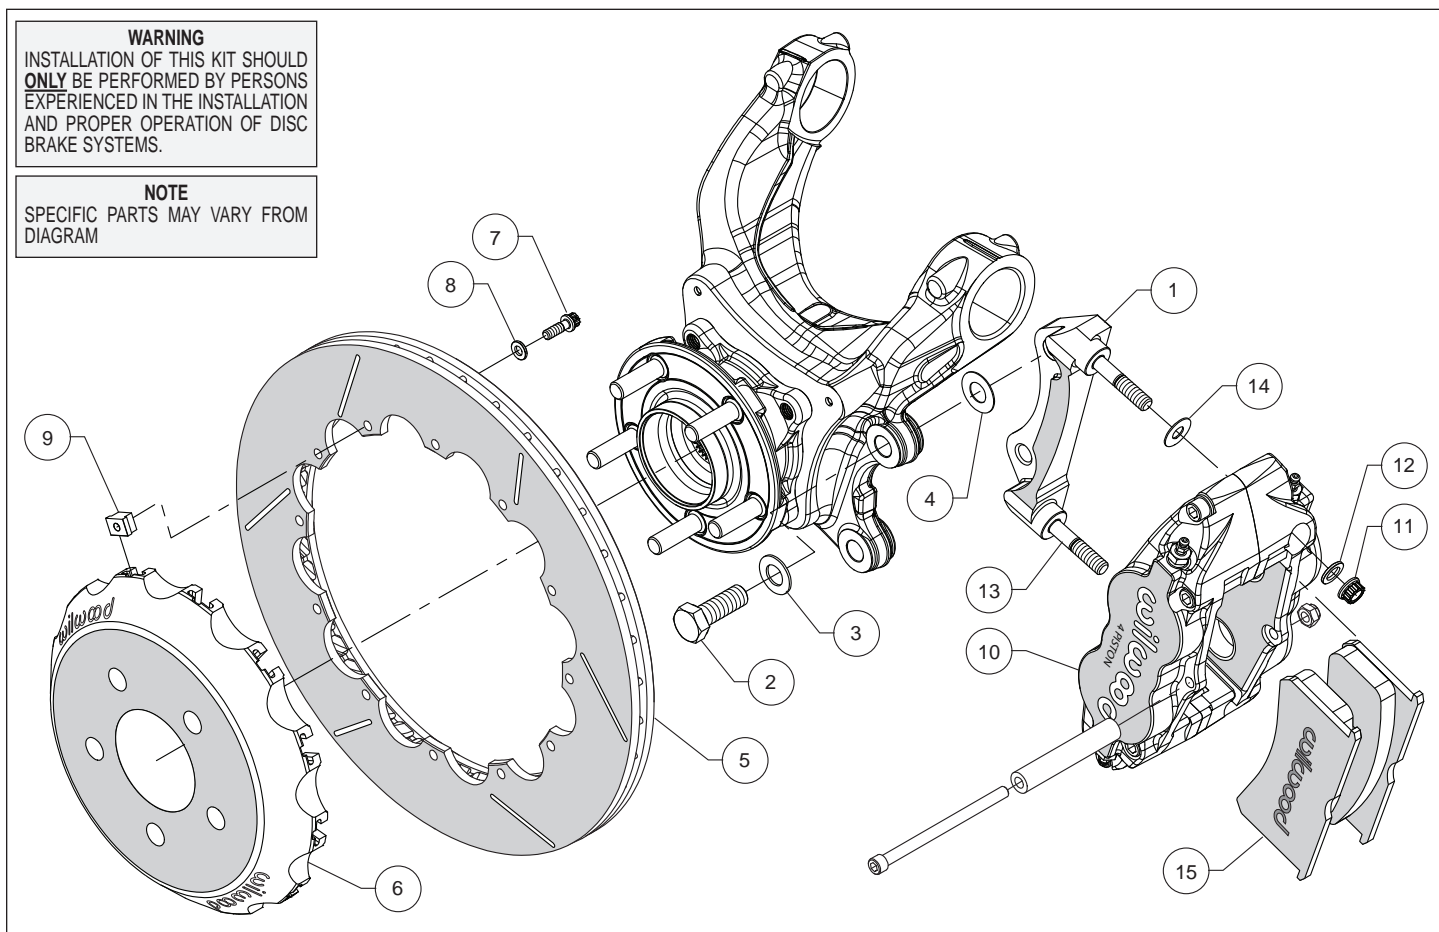
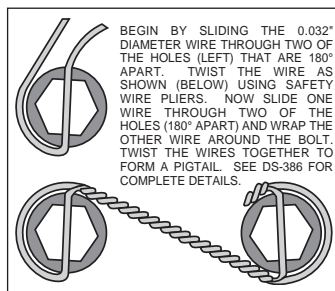

Figure 1. Typical Installation Configuration
Figure 3. Safety Wire Diagram
Assembly Instructions (numbers in parenthesis refer to the parts list and Figure 1 on the preceding pages):
- The caliper mount bracket (1) should initially be installed with clean, dry threads on the mounting bolts. Orient the bracket as shown in Figure 1, and Photo 1, and install using bolts (2) and washers (3). Initially place one .029" thick shim (4) on each bolt between the bracket and upright, Figure 1. Temporarily tighten the mounting bolts. **NOTE: The bracket must fit squarely against the mount bosses on the upright.** Inspect for interference from casting irregularities, machining ridges, burrs, etc. Later, after the caliper alignment has been checked, the mount bolts will be secured using red *Loctite*® 271.
- Orient the rotor (5) and the hat (6) as shown in Figure 1 and Photo 2. Attach rotor to hat using bolts (7), washers (8), and t-nuts (9). Follow additional instructions included with the bolt kit. Using an alternating sequence, apply red *Loctite*® 271 to the threads, and torque to 120 **in-lbs**. Safety wire bolts using standard 0.032 inch diameter stainless steel safety wire as shown in Figure 3. Please refer to Wilwood's data sheet DS-386 (available at www.wilwood.com/Pdf/DataSheets/ds386.pdf) for complete safety wire installation instructions.
- Lubricate the caliper mounting studs (13) with lightweight oil. Initially place one .035" thick shim (14) on each stud as shown in Figure 1 and Photo 3. Mount the caliper (10) onto the bracket (1) using lock nuts (11) and washers (12), Figure 1. Temporarily tighten the lock nuts and view the rotor through the top opening of the caliper. The rotor should be centered in the caliper, Photo 4. If not, adjust by adding or subtracting shims (4) between the bracket and the upright. Once the caliper alignment is correct, remove the bracket mounting bolts one at a time, apply red *Loctite*® 271 to the threads, and torque to 77 ft-lbs..